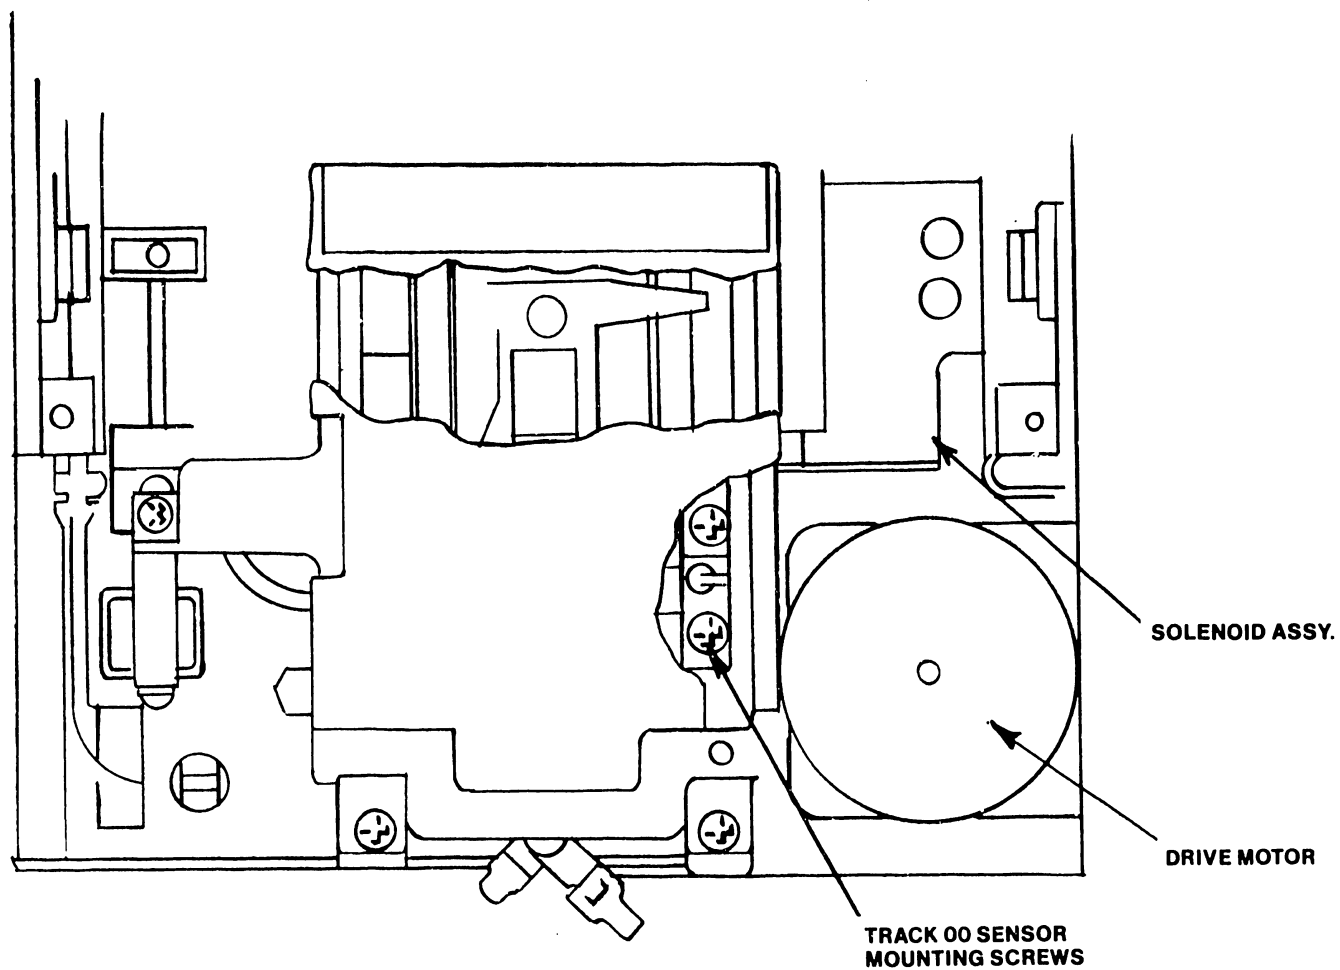

FIGURE 5-32 TRACK 00 SENSOR MOUNTING SCREWS
5. Loosen two track 00 sensor mounting screws (top rear of disk drive, see Figure 5-32).
7. Step sensor to track 03 (key 3) and adjust to obtain a logic 1.